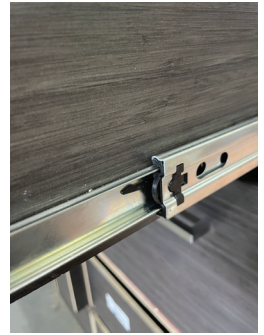

Figure 7: Back levers on the drawer tracks
Step 3A: Locate the black levers on the left and right sides off the drawer track (figure 7).